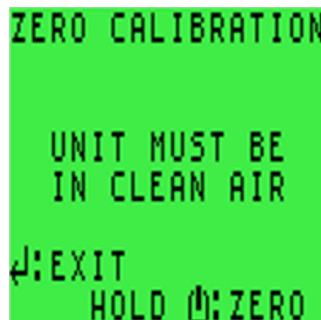

Figure 9-2: ZERO CALIBRATION Screen
2. Continue holding the button until the self test finishes and the LCD displays **ZERO CALIBRATION**, as shown in Figure 9-2: ZERO CALIBRATION Screen.